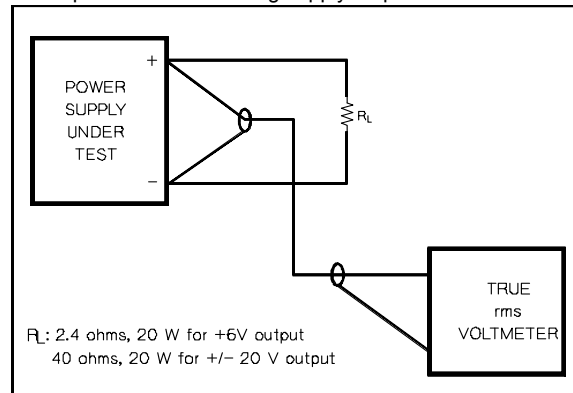

Figure A-6. Ripple and Noise rms Measurement Test Setup
- a. Connect the test equipment across the output of the +20 V supply as shown in Figure A-6.
- a. Connect the test equipment across the output of the +20 V supply as shown in Figure A-6, but replace the true rms voltmeter with the oscilloscope.